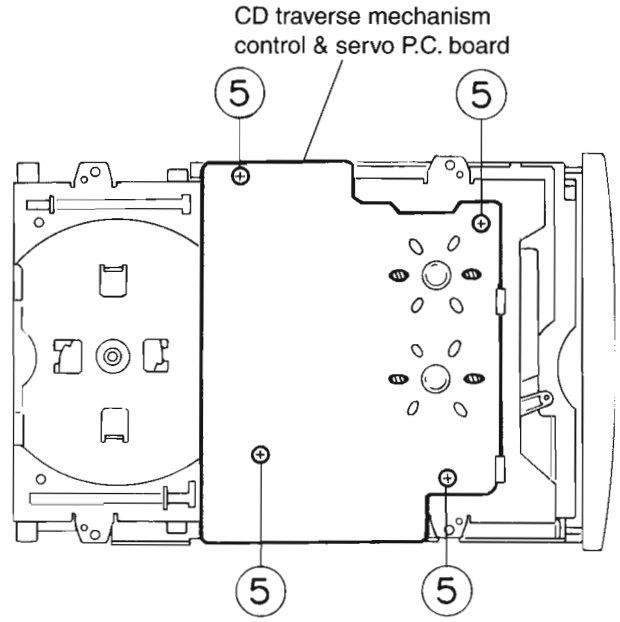

Fig. 10
5. after turning over the CD traverse mechanism, remove the four screws 5 retaining the CD traverse mechanism control & servo P.C. board (see Fig. 10).